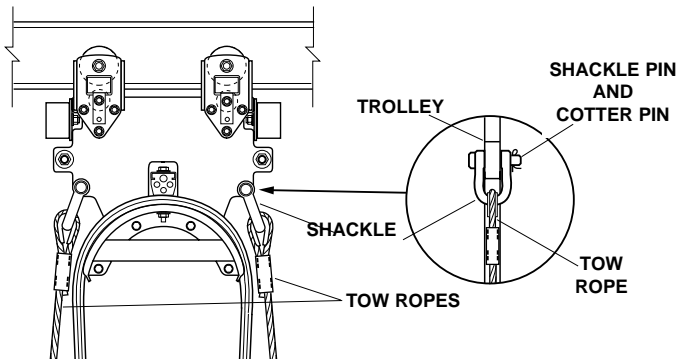

FIGURE 21–TOW ROPE INSTALLATION
1. Mount tow ropes with shackles supplied. See Figure 21.